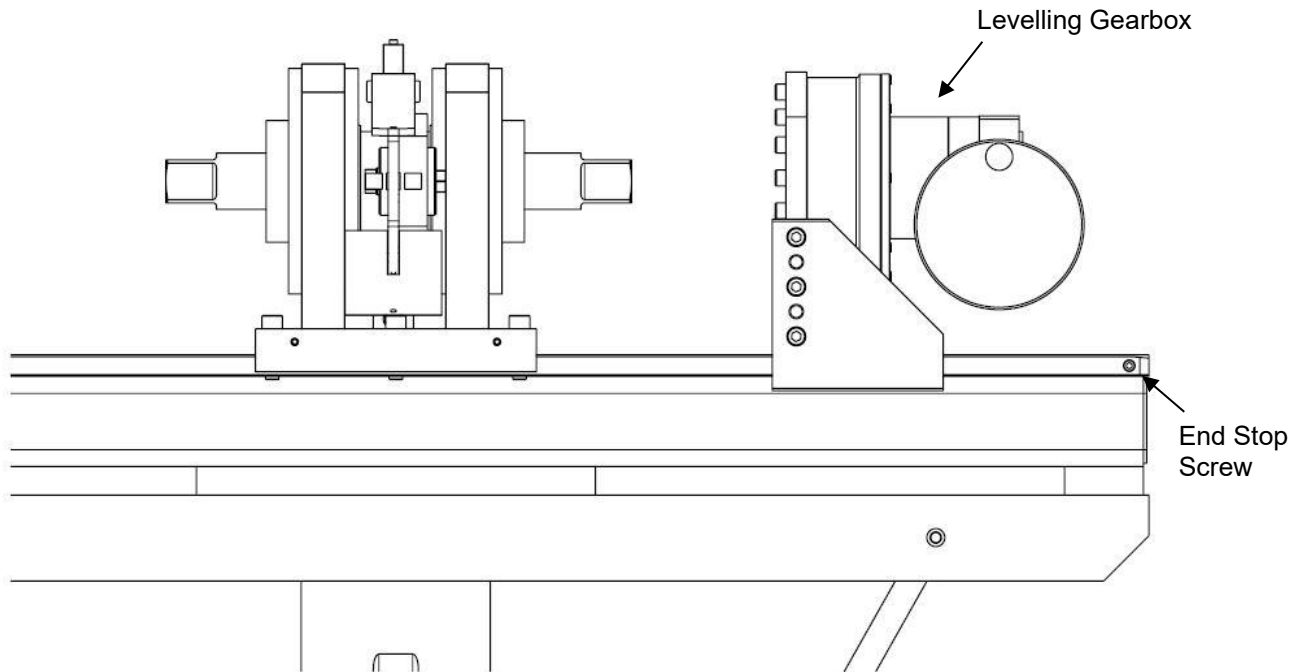

FIGURE 4 – Location of Levelling Gearbox
- 3.2 Line up the levelling gearbox with the slots in the pedestal bed then slide on. Ensure drive square input is facing beam as shown in figure 4.